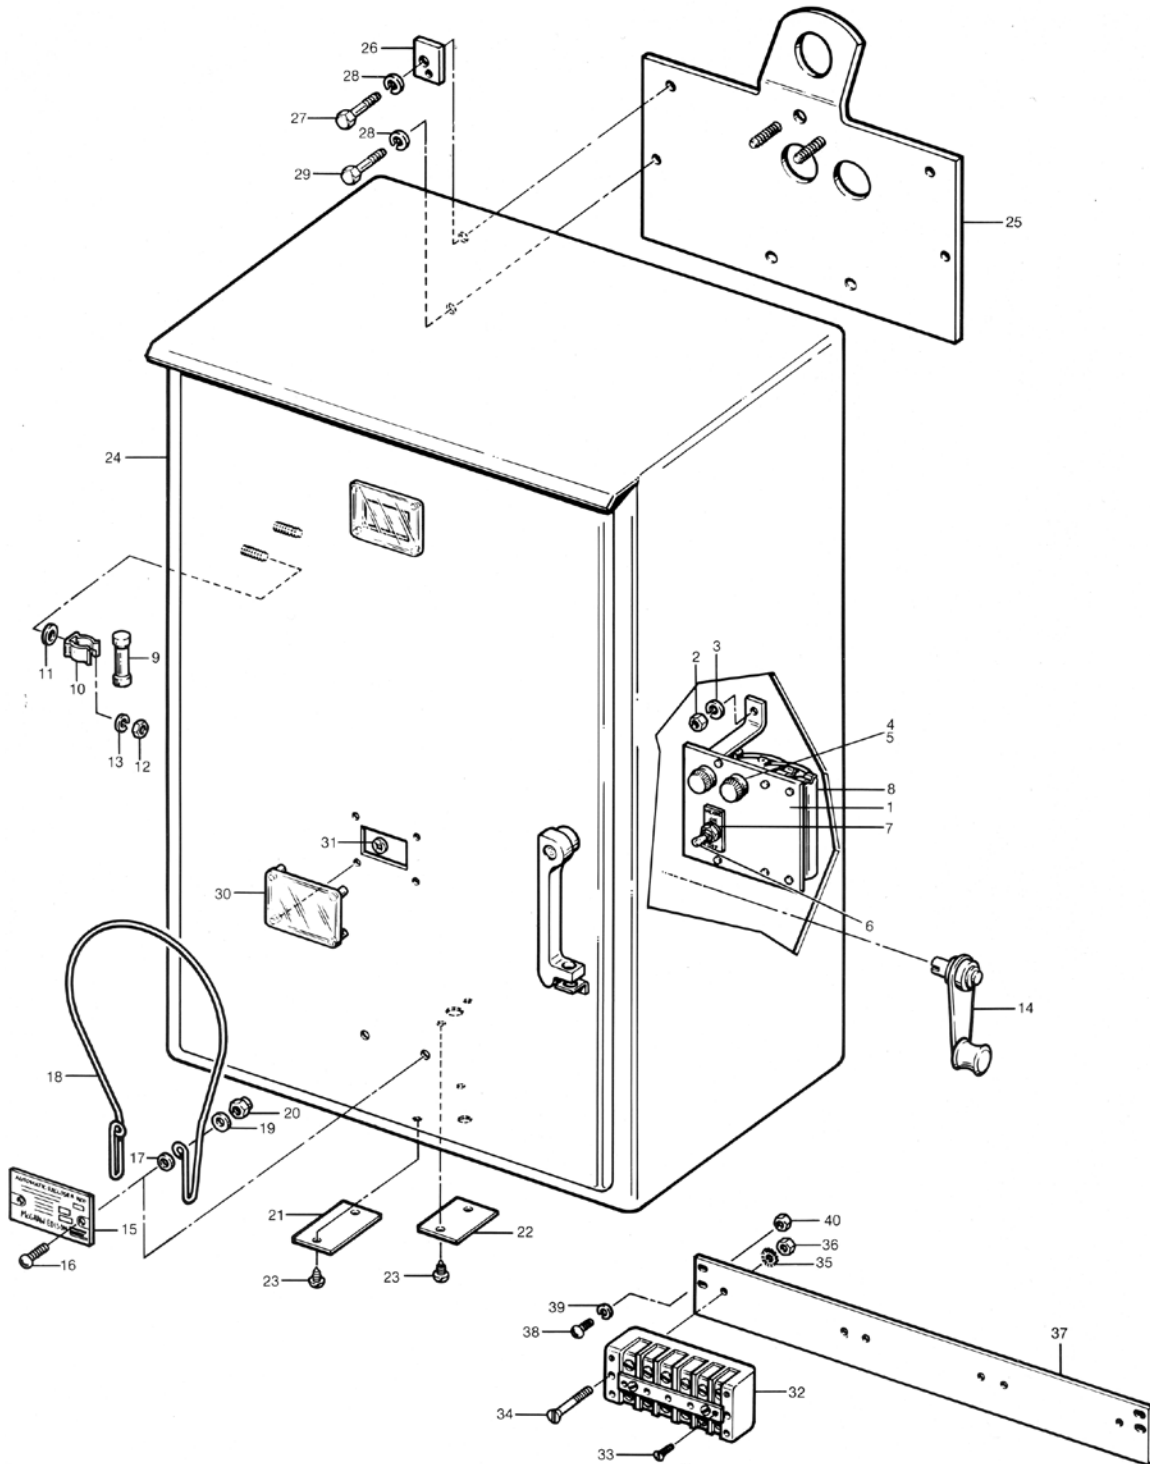

Figure 34. Mechanism cabinet parts group
**Mechanism cabinet parts group (Figure 34)**